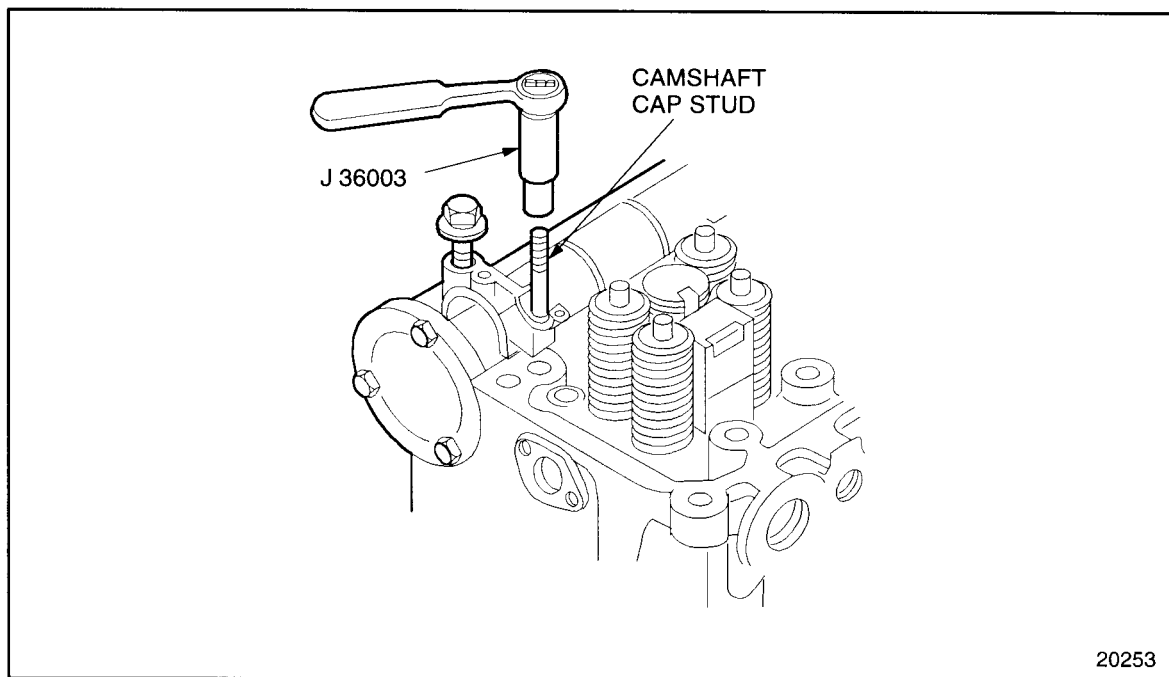

Figure 1-355 Camshaft Cap Stud Removal
14. Remove the remaining seven camshaft cap bolts. Remove the No. 1 and 7 studs using socket tool, J 36003 part of J 36003-A. See Figure 1-355.